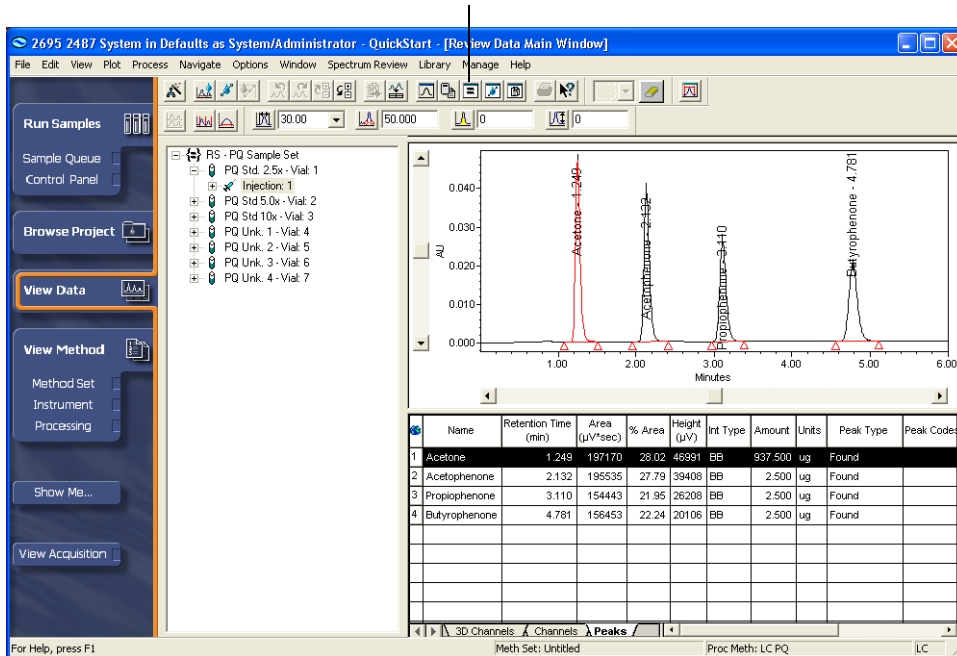

Figure 4-32 Review Window
4. To view the results of the manual processing, click  (Results) on the toolbar. The Review window appears (Figure 4-32).